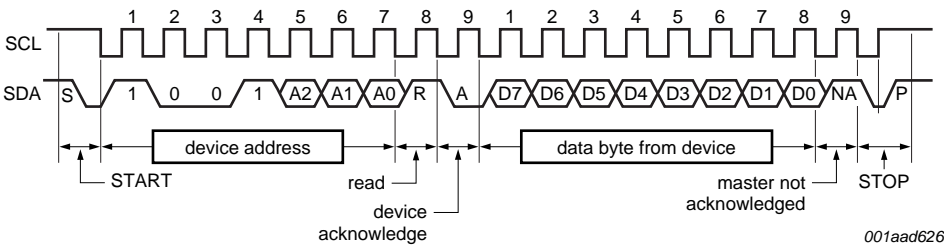
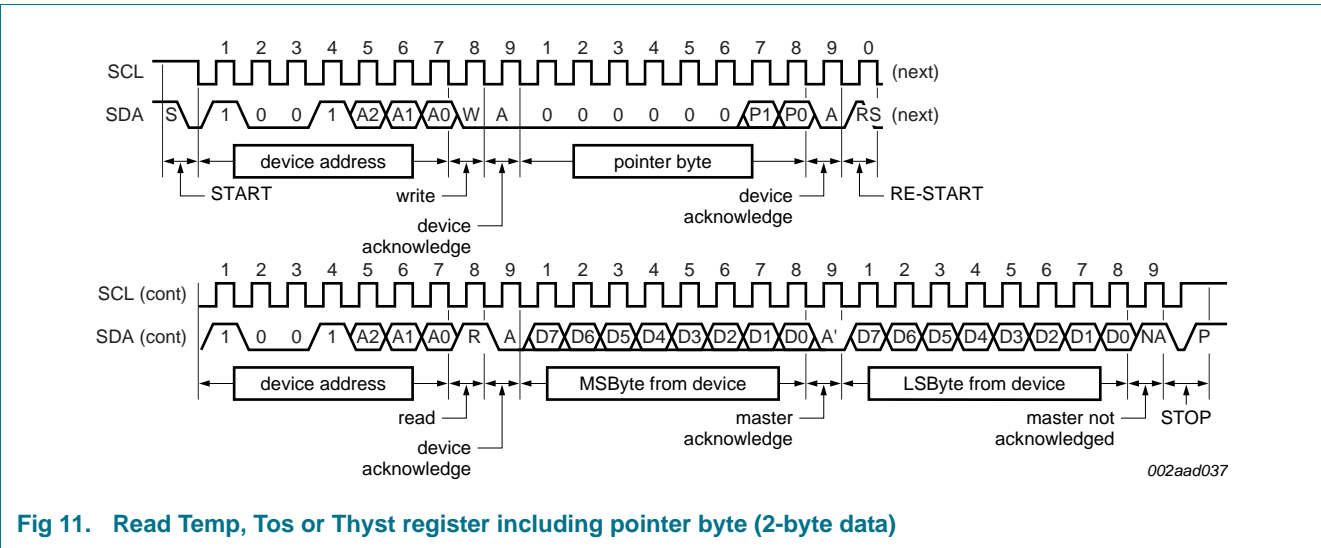

Fig 9. Read configuration or temp register with preset pointer (1-byte data)
Fig 11. Read Temp, Tos or Thyst register including pointer byte (2-byte data)
14. For best temperature accuracy both temperature bytes should be read as shown in Figure 11 and Figure 12, but for a quick less accurate check/reduce bus transmission then only one byte, the MSByte, needs to be read as shown in Figure 9.